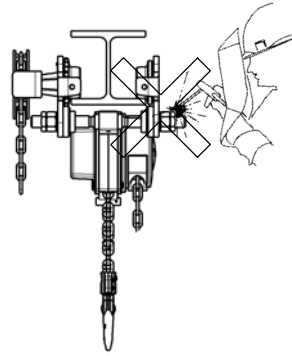

Fig. 3
- Welding on trolley is strictly forbidden (Fig. 3).